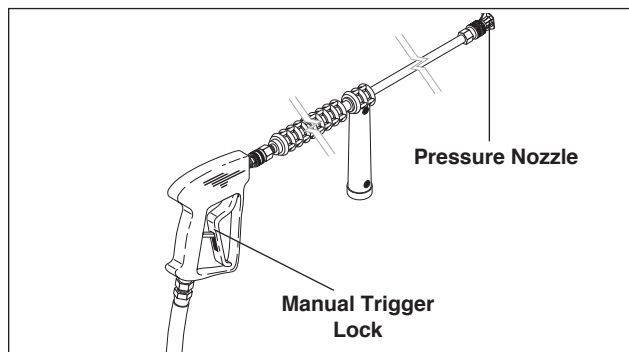

Figure 4 - Nozzle Installation/Manual Trigger Lock
1. Install quick connector nozzle on end of the wand. See Figure 4.